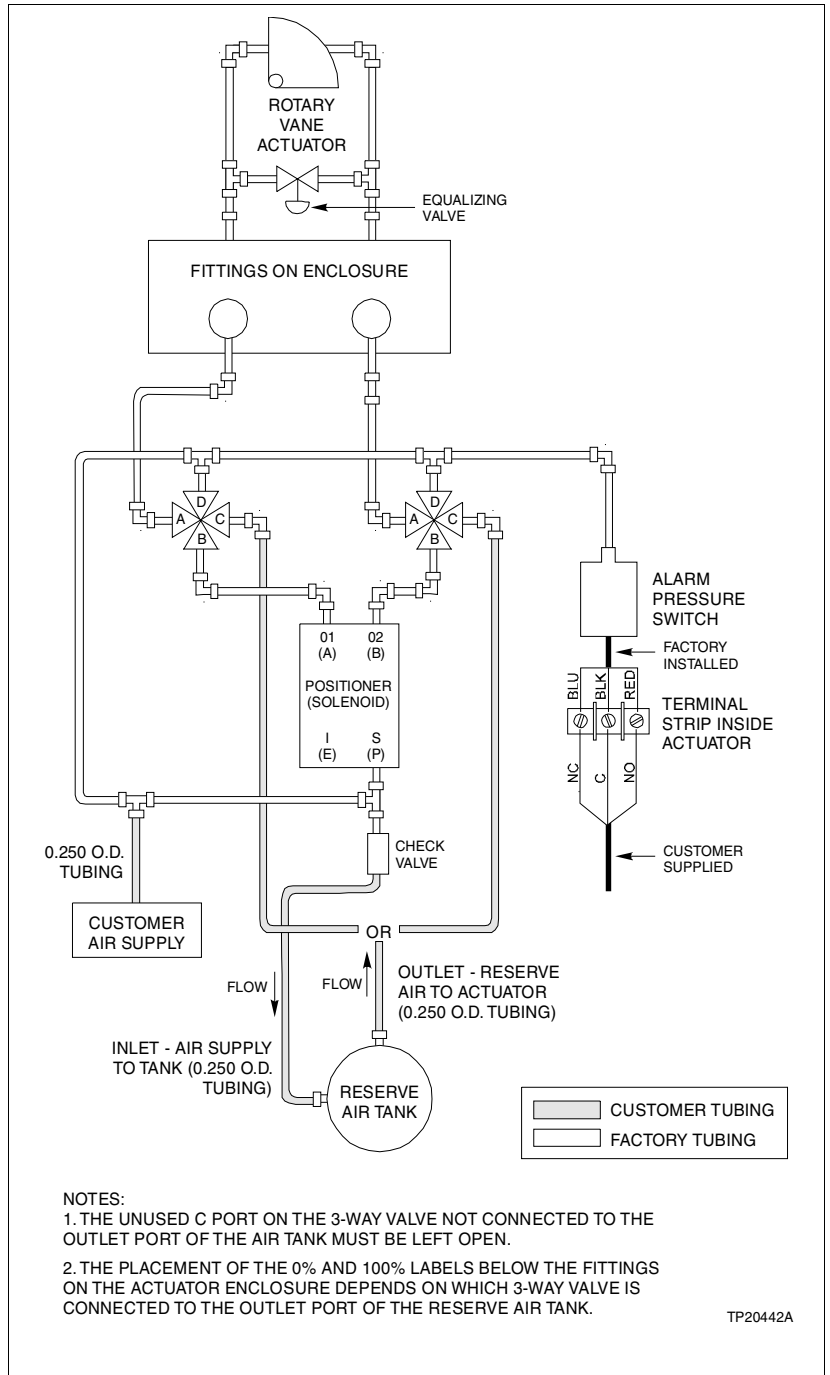

Figure 3-12. Reserve Air Tank Tubing for Type UP2 Actuators
NOTE: Refer to Figures 3-12 and B-11
7. Run the wires for the external alarm through one of the holes in the actuator enclosure and connect them as shown in Figure 3-12.